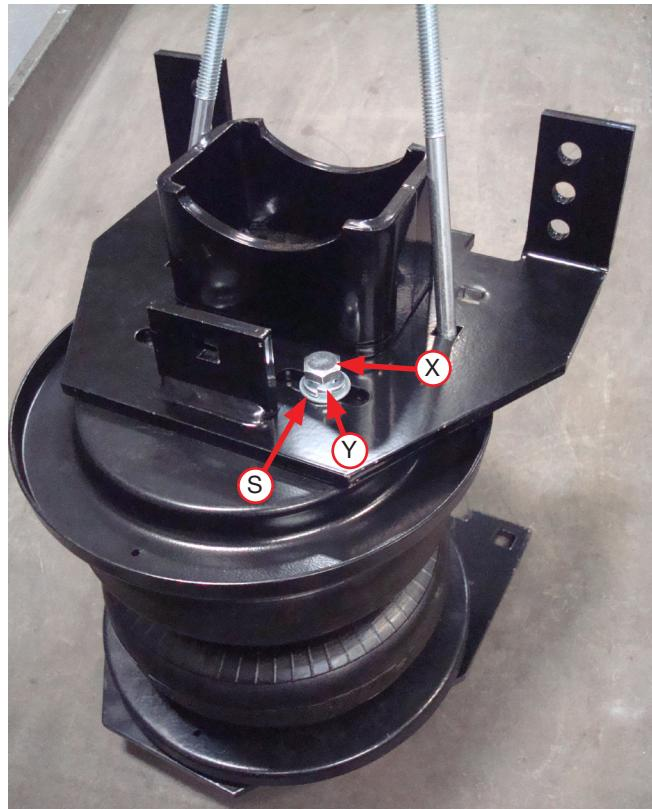

Fig. 13
7. Set the lower bracket main plate assemblies onto the air springs with the roll plates installed. Attach with 3/8"-24 X 3/4" hex bolt (X), 3/8" lock washers (Y) and 3/8" flat washers (S) (Fig. 13). Push the lower bracket as far forward as possible. Torque the hardware to no more than 20 lb.-ft. (27Nm). Refer to Figure 13.